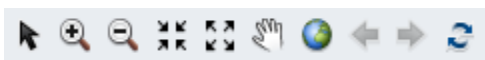

Figure 55 Tool in GIS window
- Select elements, (fixed) zoom in/out in the map, pan, full extent, refresh view, select features, see Figure 55